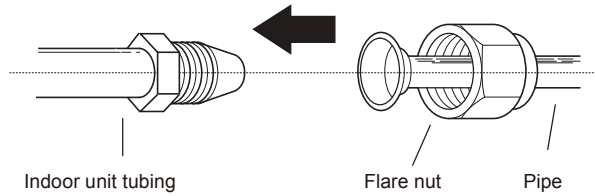

Fig. 6.7
1. Align the center of the two pipes that you will connect. See Fig.6.7.